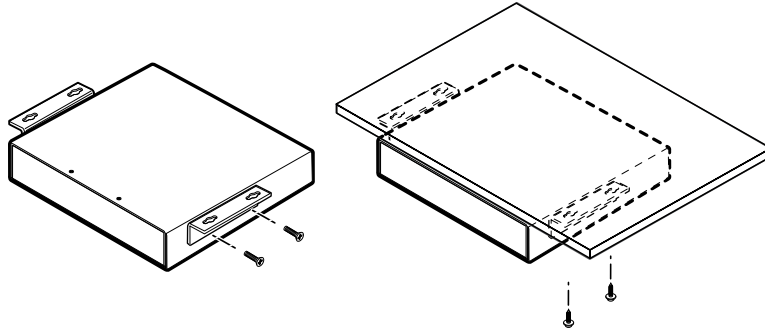

Figure 5. Attaching the furniture mounting brackets to an MTP SW6
2. Attach the furniture mounting brackets to the switcher with the four machine screws supplied with the mounting kit (figure 5).